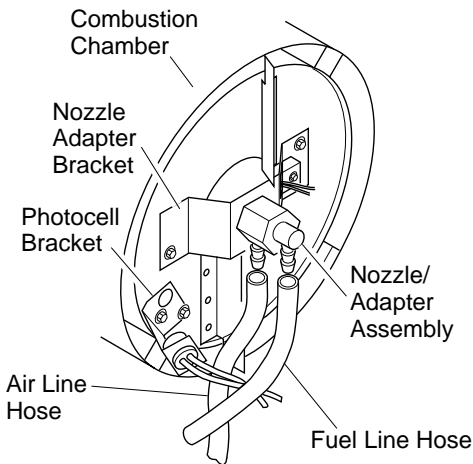
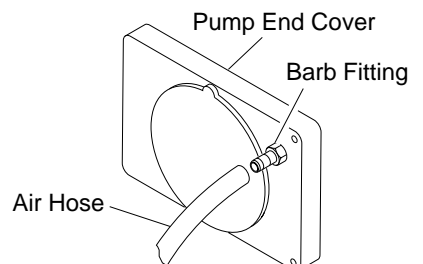

Figure 17 - Removing Air and Fuel Line Hoses (B35CEH and B70CEH Models Only)
Figure 22 - Air Hose to Barb Fitting
14. Replace photocell in photocell bracket. Route wires as shown in either Figure 17, 18, or 19, page 11.
3. Remove fuel and air line hoses from nozzle assembly (see Figure 17, 18 or 19).
4. Inspect fuel and air line hoses for cracks and/or holes. If fuel line hose is damaged, disconnect from nozzle adapter (see Figure 17, 18, or 19) and from fuel filter (see page 8). If air line hose is damaged, disconnect from nozzle adapter (see Figure 17, 18, or 19) and from barb fitting on pump end cover (see Figure 22).
5. Install new air and/or fuel line. Attach one end of air line hose to barb fitting on pump end cover (see Figure 22) and the other end to nozzle adapter (see Figure 17, 18, or 19). Attach one end of fuel line hose to fuel filter (see page 8) and the other end to nozzle adapter (see Figure 17, 18, or 19).
For B35CEH and B70CEH model heaters, route air and fuel lines approximately as shown in Figure 17.